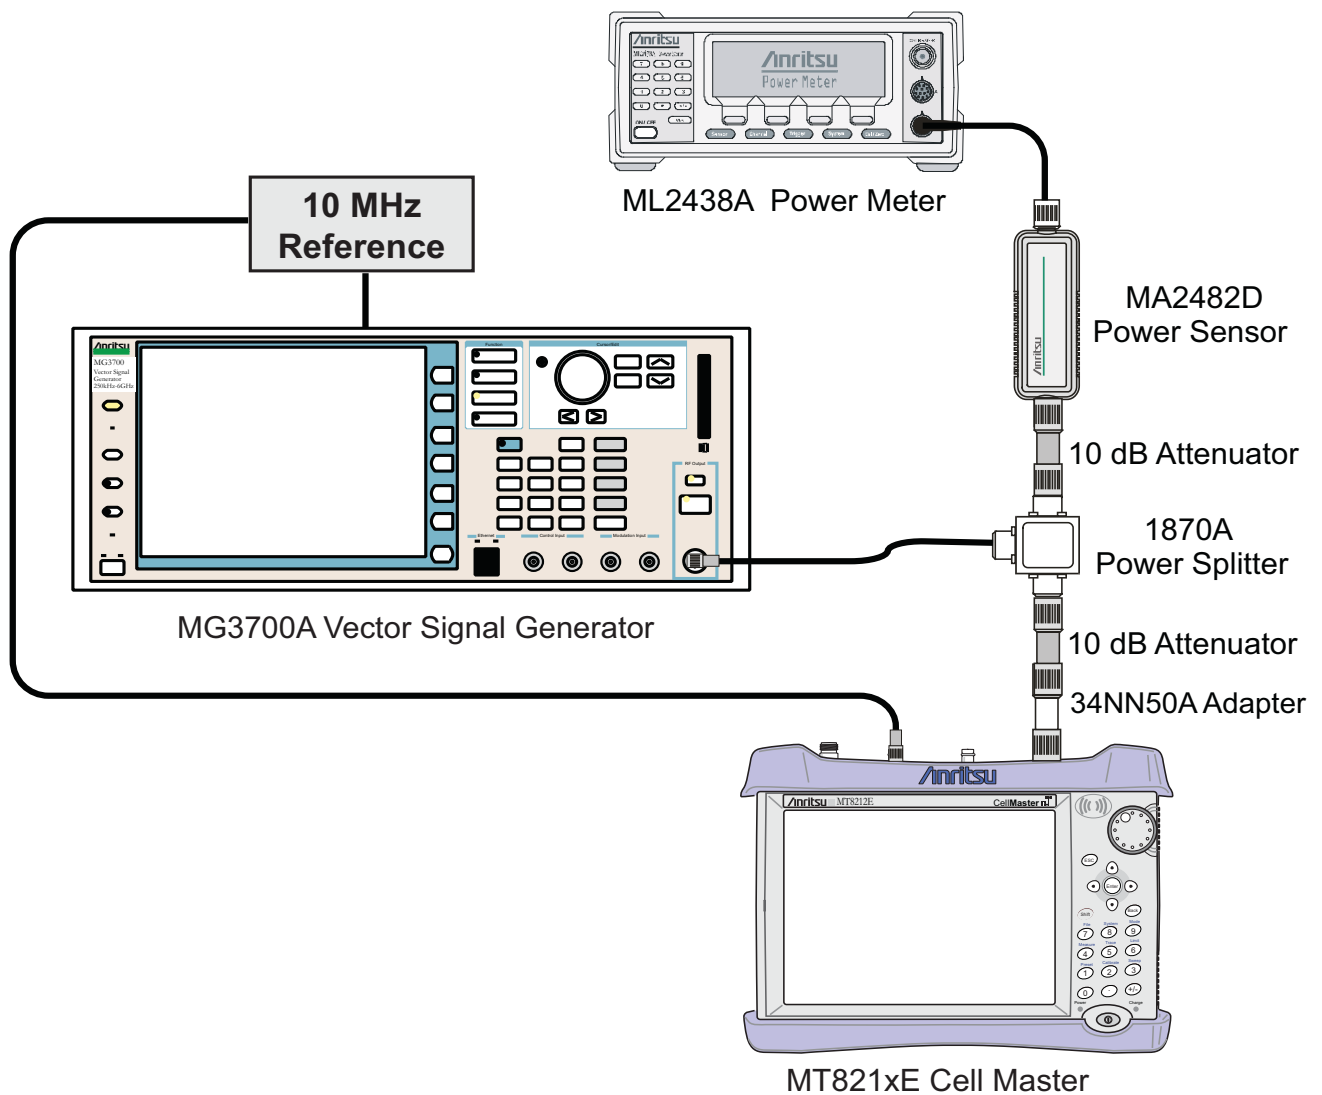

Figure 5-21. LTE Signal Analyzer Option Verification
4. Connect the equipment as shown in Figure 5-21
4. Connect the equipment as shown in Figure 5-21.